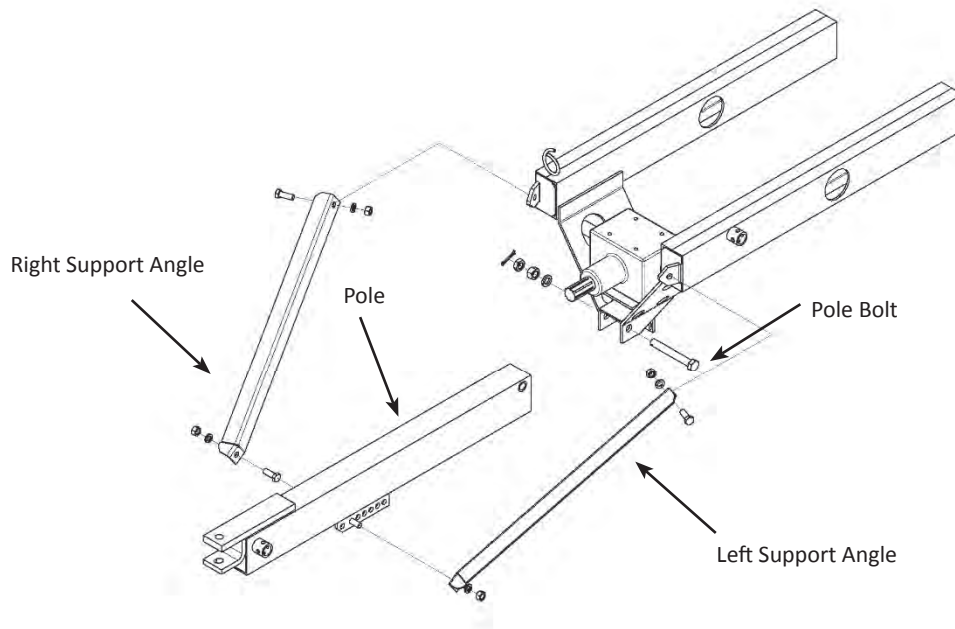
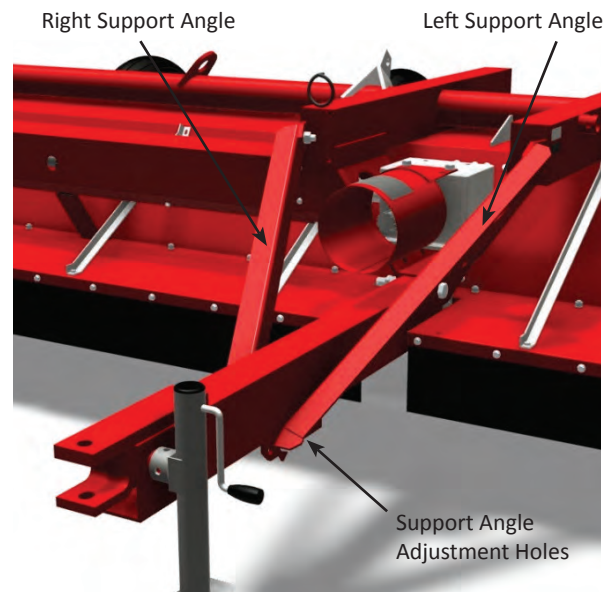

Figure 4: Pole and Support Components
Figure 5: PTO Support and Adjustment
1. Lift the front of the Shredder with a chain hoist and place the pole in position under the gear box and install the pole bolt, lock washer, hex nuts, and cotter pin. See Figure 4 for details.
2. There are seven pole support angle mounting holes on each side of the pole, depicted in Figure 5. Select the position that will set the pole at the correct tractor drawbar height and keep the Shredder body as level as possible (see note). Secure the pole support angles with four $\frac{3}{4}$ " – 10 x 2" (Grade 5) hex-head cap screws, lock washers, and nuts.
3. The shredder body must be kept as level as possible from front to rear to insure safe operation and proper shredding action. The Shredder can be leveled by moving the pole support angles forward or backward in the support angle adjustment holes on the lower sides of the pole, shown in Figure 4 and Figure 5 (Page 2.2).